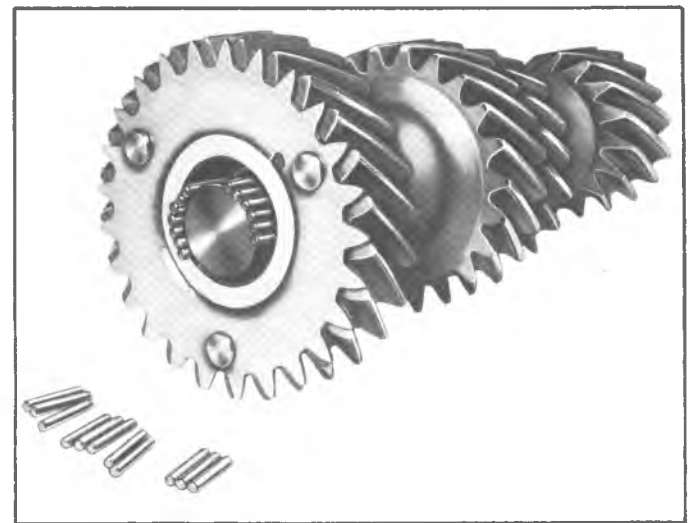

Fig. 15B--Loading Countergear Bearings
2. Using heavy grease to retain the rollers, install a spacer, 28 rollers, a spacer, 28 more rollers, then another spacer. Install in the other end of the countergear, a spacer, 28 rollers, a spacer, 28 more rollers, and another spacer (fig. 15B).